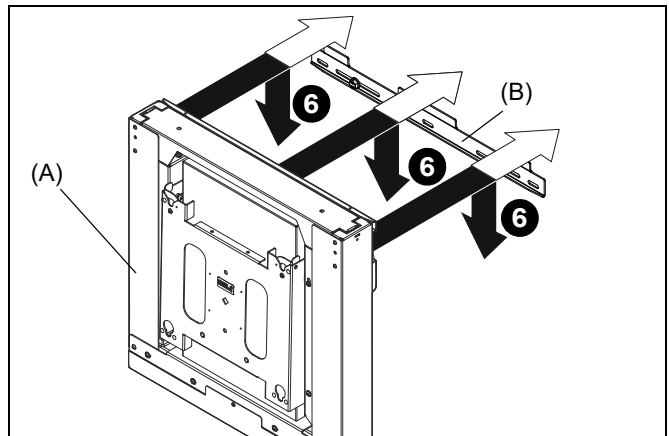

Figure 7
6. Hang XSD1U assembly (A) onto top bracket (B) by placing the teardrop mounting holes on mount over thumb nuts on bracket. (See Figure 7)